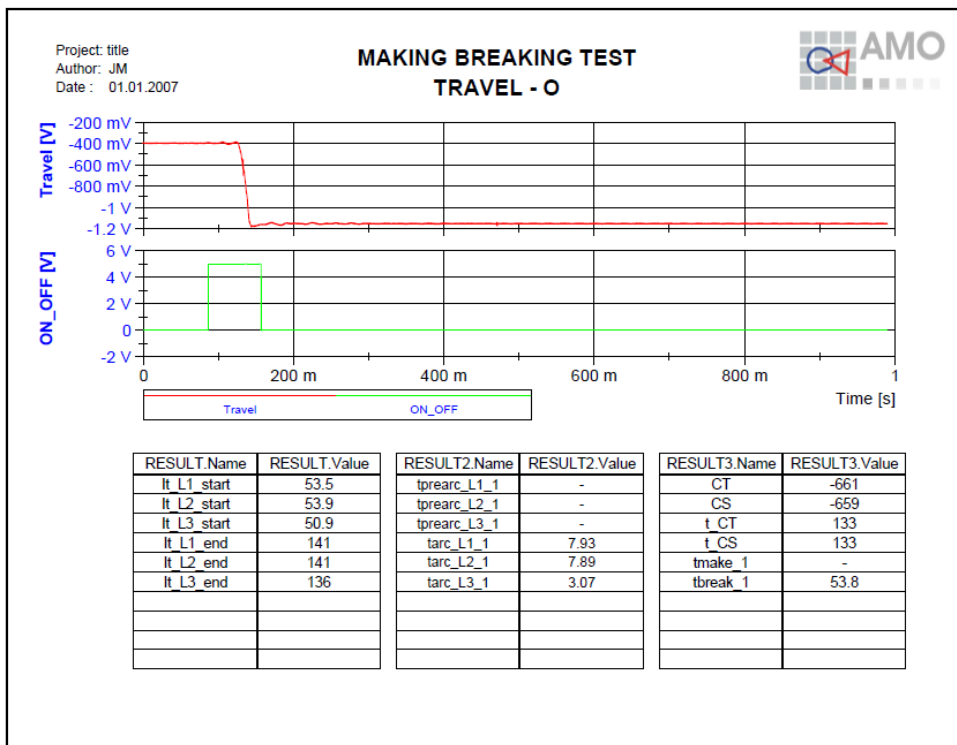

Figure 67: MBT - Travel O
The analysis runs automatically with the above defined names constraints and calculates the parameters for all 3 phases on current and voltage. For each phase an overview report and a detailed report is generated containing the results in graphic und tabular form. The example shows a typical open (O) test. The figures Figure 60 to Figure 67 exemplary show the phase 1 results.